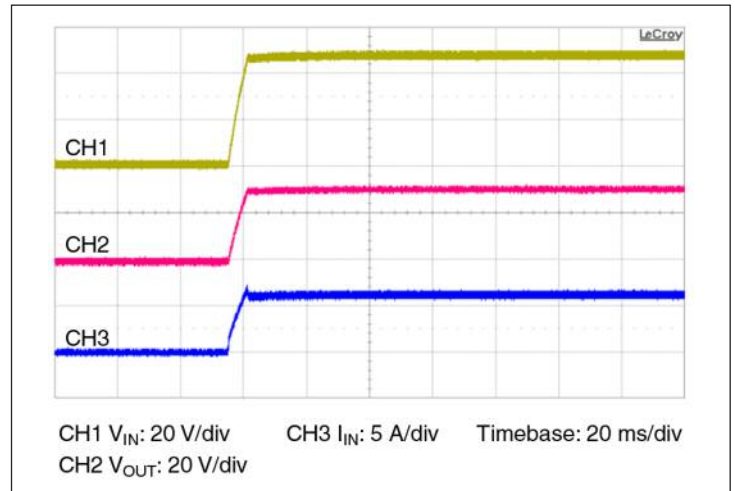

Figure 10 — Start up from application of V_{IN} ; VC pre-applied $C_{OUT} = 100 \mu F$
- **Normal operation (VC applied prior to V_{IN}):** In this case the controller is active prior to ramping the input. When the input voltage is applied, the VTM module output voltage will track the input (See Figure 10). The inrush current is determined by the input voltage rate of rise and output capacitance. If the VC voltage is removed prior to the input reaching 26 V, the VTM may shut down.